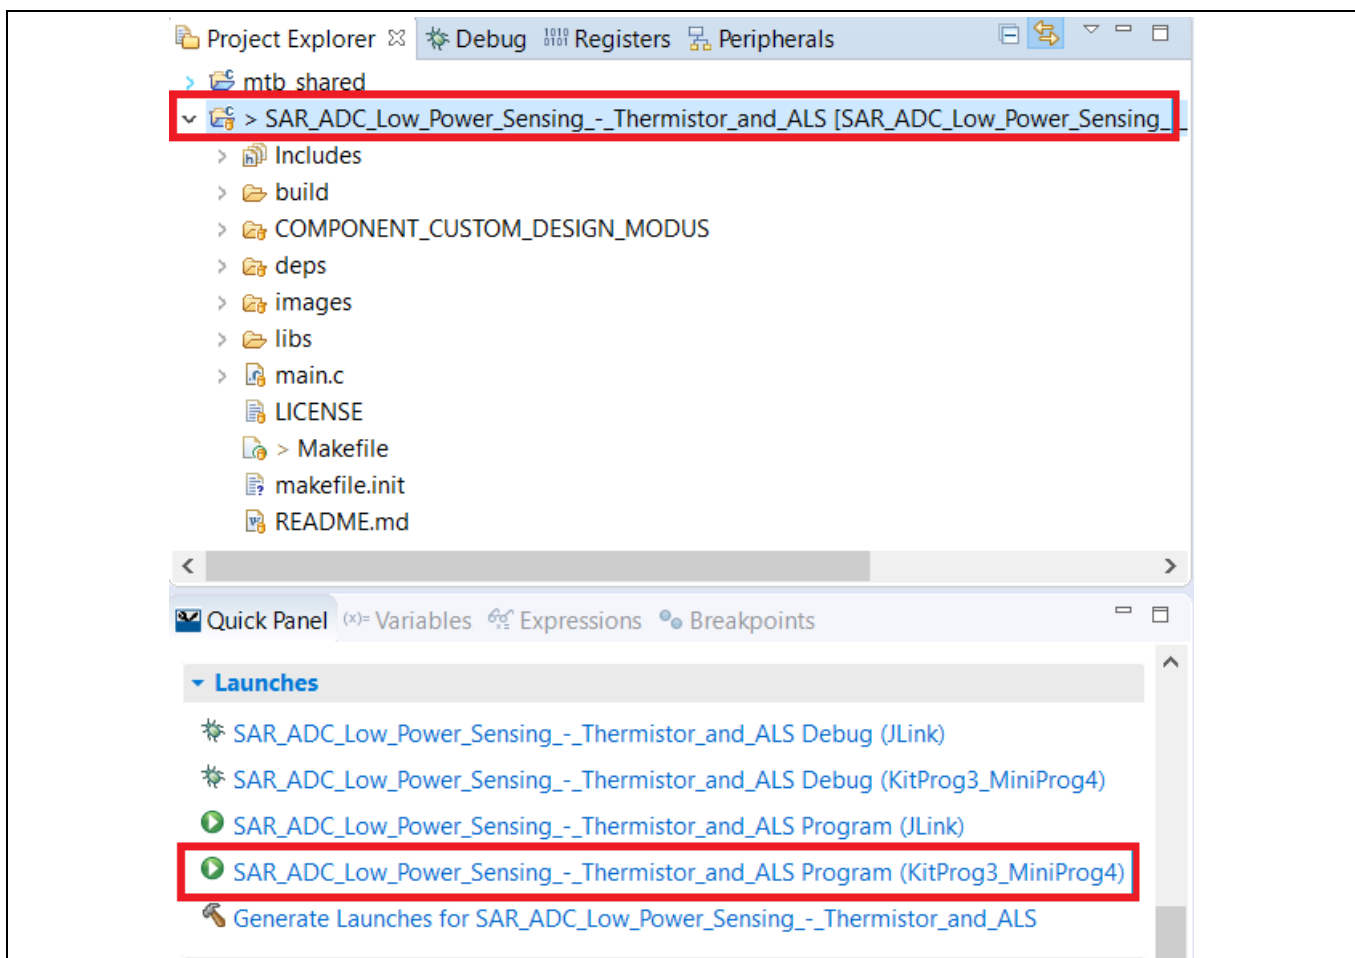

Figure 10 Build and program the code example
3. To build and program a PSoC™ 6 MCU application, in the Project Explorer, select <App_Name> project. In the Quick Panel, scroll to the **Launches** section and click the <App_Name> **Program (KitProg3_MiniProg4)** configuration as shown in **Figure 10**.